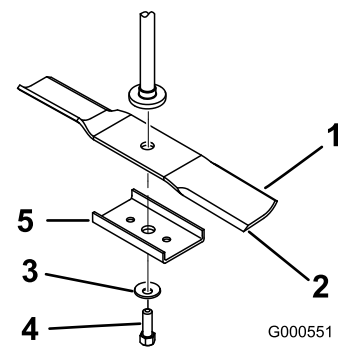

Figure 45
2. Remove the blade bolt, the curved washer, the blade stiffener, and the blade from the spindle shaft (Figure 45).
1. Install the blade onto the spindle shaft (Figure 45).
2. Install the blade stiffener, the curved washer (cupped side toward the blade), and the blade bolt (Figure 45).